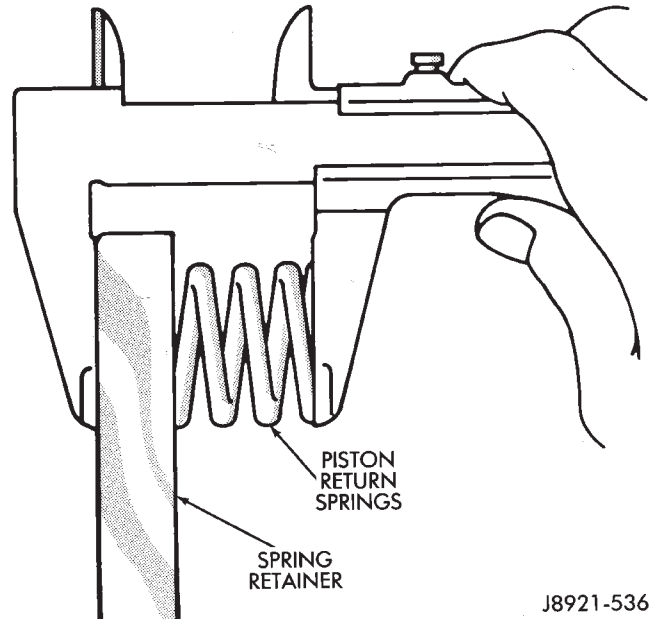

Fig. 233 Checking Piston Return Spring Length
(12) Remove and discard clutch piston O-rings.
(13) Measure clutch disc thickness. Minimum allowable thickness is 1.84 mm (0.0724 in.). Replace clutch pack if any disc is below minimum thickness.
(14) Measure free length of piston return springs with springs in retainer (Fig. 233). Length should be 21.32 mm (0.839 in.). Replace return springs if not within specification.